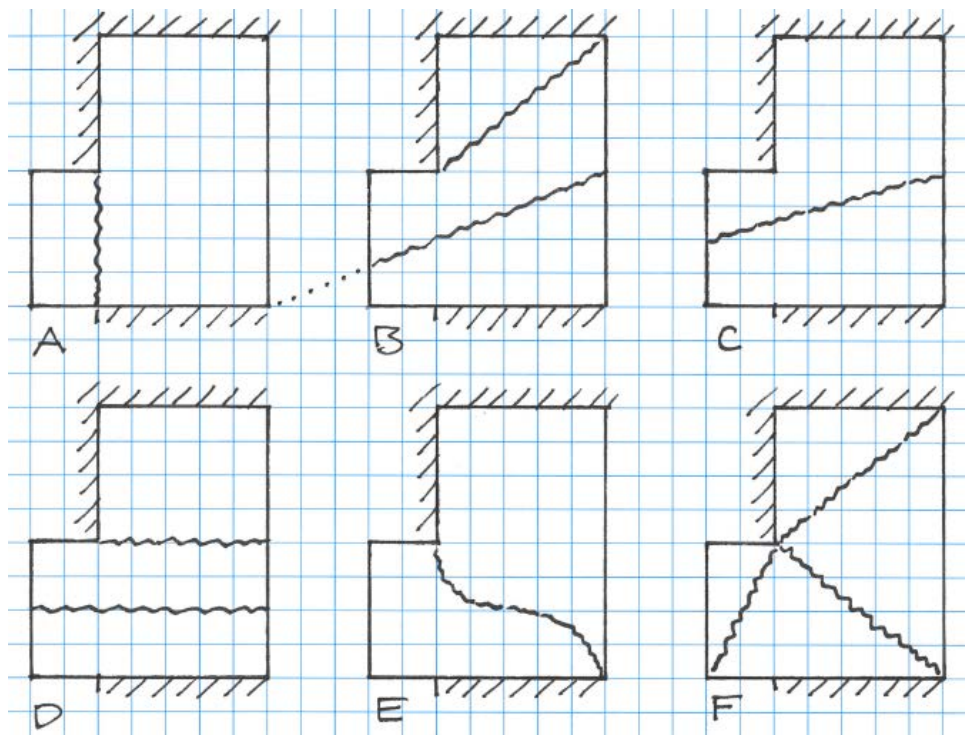

Figure 4. Yield line patterns of problem 2a
- a Consider the yield line patterns of Figure 4. Which of these patterns give kinematically possible mechanisms? (1 point)